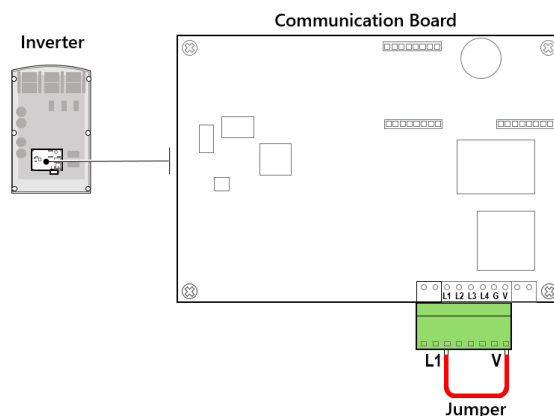

Figure 3 Using the inverter as voltage source to test Alternative Power Source mode
4. Use a jumper to short the **L1** and **V** terminals of the Communication Board (See Figure 3).
3. Connect twisted pair wires to the L1 and V terminals of the Communication Board (See Figure 3).